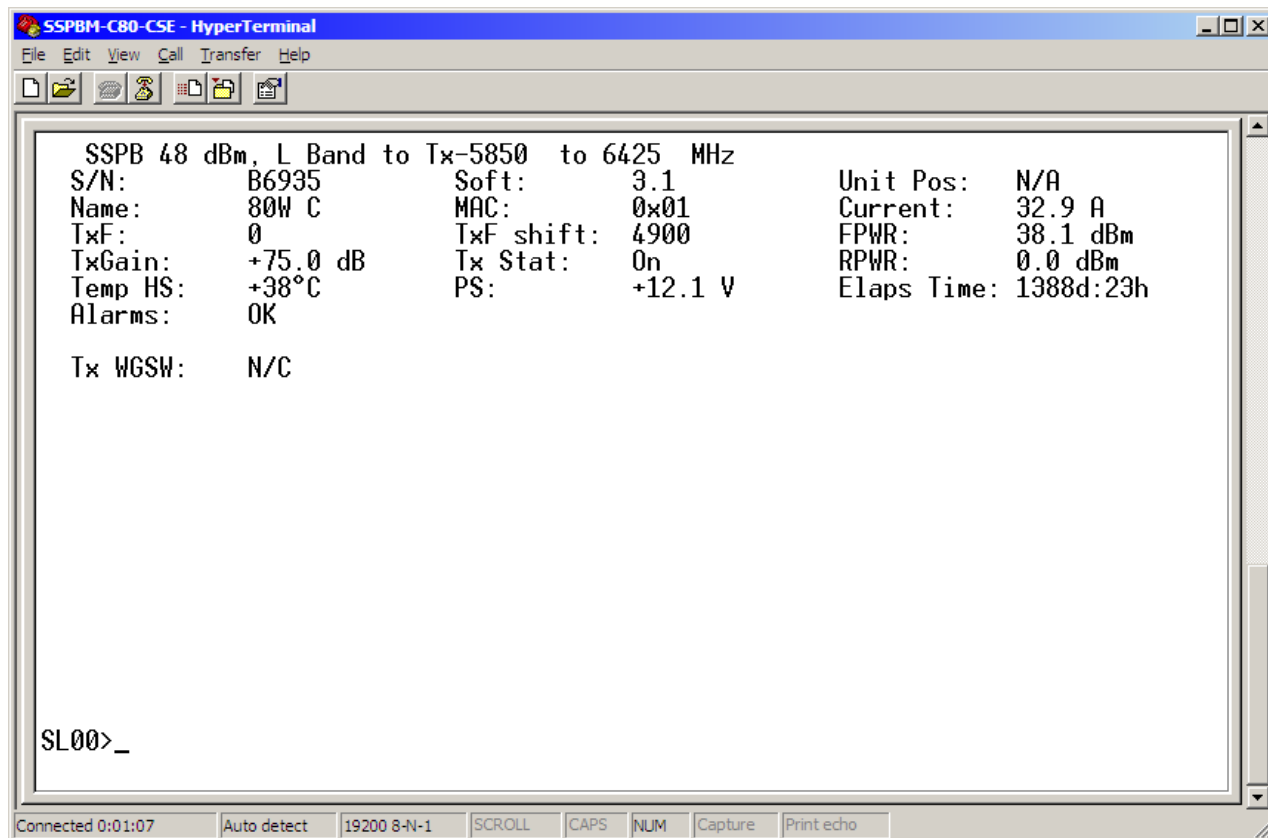

Figure 4: RS-232 HyperTerminal Communication – Status Display after pressing <ENTER>
4. After running the program in the computer and pressing the **<Enter>** key a display similar to **Figure 4** at page 33 will be shown.